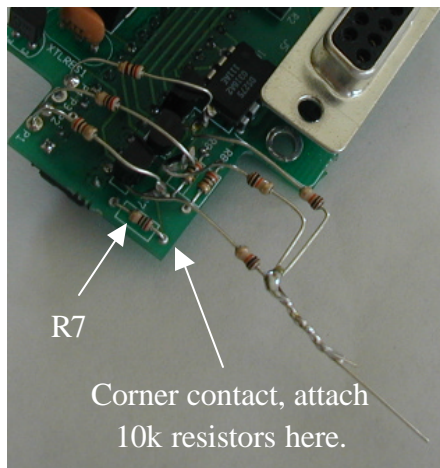

Figure 11: R7 contact identification
13. Connect the free end of the 10k ohm resistors to ground at the corner contact for resistor R7. See **figures 11 and 12**.